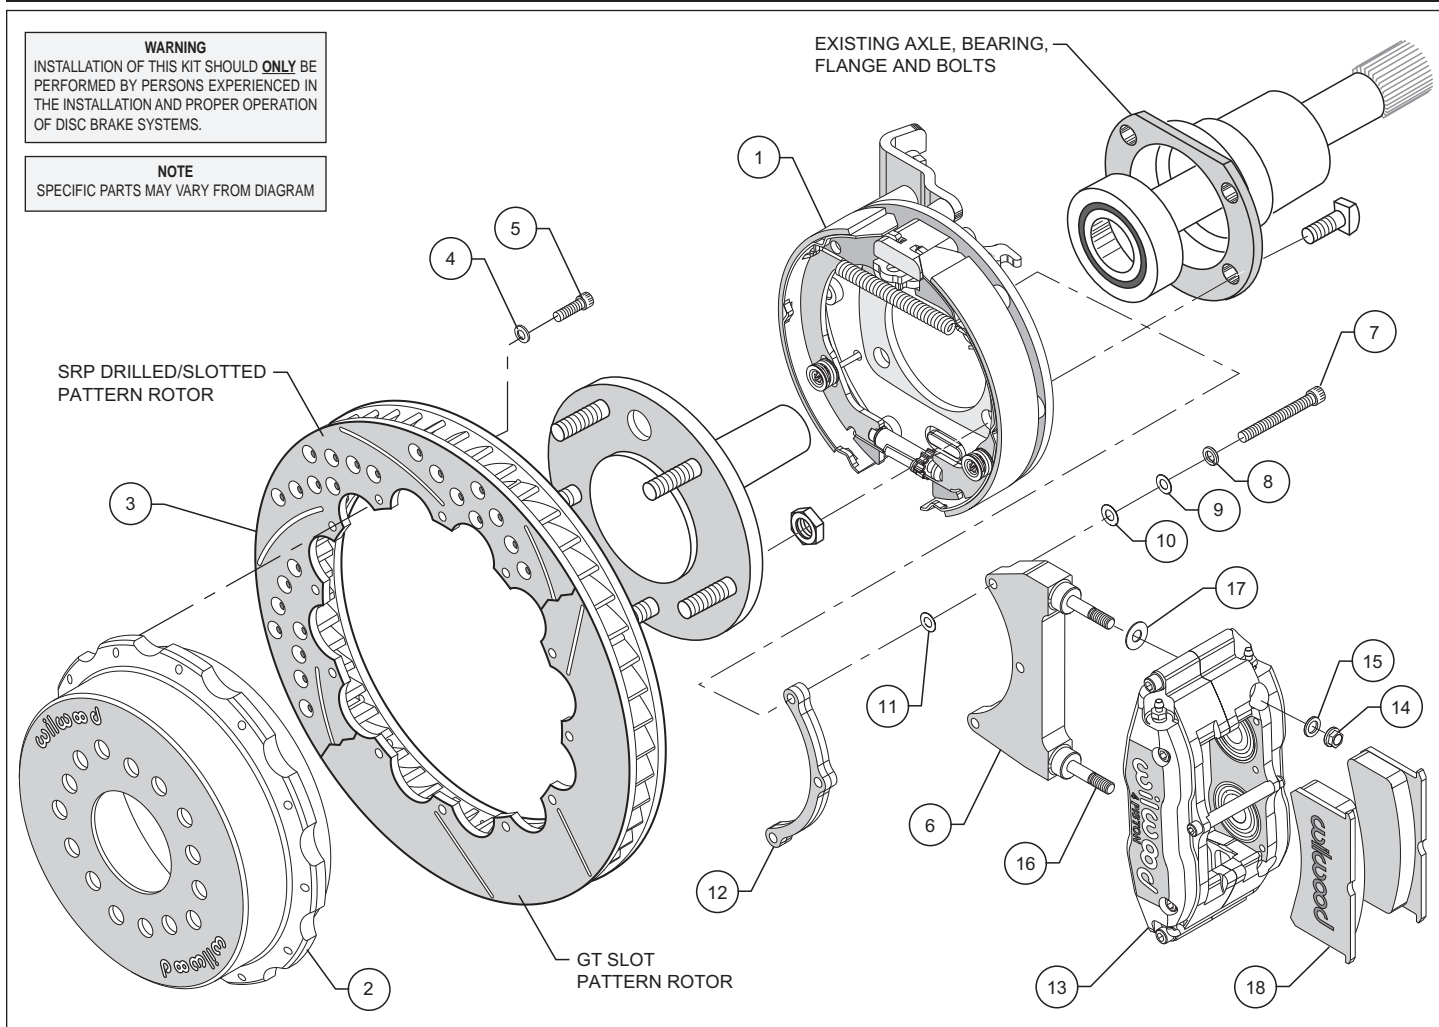
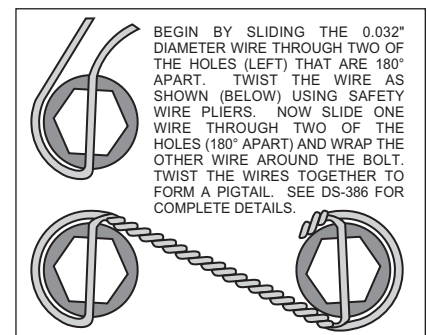

Figure 1. Typical Installation Configuration
Figure 4. Safety Wire Diagram
- Slide the bracket kit assembly (1) onto the housing flange and then insert the axle assembly through the center hole of the bracket kit assembly (1). Secure using the stock Original Equipment Manufacturer (OEM) bolts and nuts. Stock OEM hex nuts that retain the bracket kit assembly (1) should be on the wheel side of the bracket. Apply red *Loctite*® 271 to the stock OEM bolt threads and torque to OEM specifications. Make sure the bracket kit assembly (1) brake pads are **FACING OUTWARD TOWARDS THE WHEEL**.
- With the larger I.D. side of the rotor (3) facing away from the hat (2), bolt rotor (3) to hat (2) through the backside of the rotor using washers (4) and bolts (5). Torque bolts (5) in an alternating sequence to 103 **in-lb**. Safety wire bolts (5) using standard 0.032 inch diameter stainless steel safety wire as shown in Figure 4. Please refer to Wilwood's data sheet DS-386 (available at www.wilwood.org/ds386.pdf) for complete safety wire installation instructions.
- Align the correct hole pattern in the hat (2) with the stud pattern on the axle flange. **NOTE:** Some OEM and aftermarket axles come with stud sizes larger than 0.50" diameter. Verify stud size and have a qualified machine shop drill the hats to the correct size, if necessary. Slide the hat/rotor assembly (2 and 3) over the wheel studs covering the bracket kit assembly (1) and against the axle flange face. Check to be sure the hat seats squarely against the hub. Install a couple of lug nuts (finger tighten) to keep the rotor/hat assembly in place while continuing with the installation.
- NOTE:** Please reference the caution statement at the beginning of the assembly instructions. The caliper mounting bracket assembly (6) should be installed first with clean, dry threads on the mounting bolts (7). Install the bracket from the rear side of the bracket kit assembly (1) by sliding bolt (7) through lock washer (8), flat washers (9 and 10), bracket (6), shim washer (11) and finally through the spacer (12), see Figure 1. **NOTE:** End of bolt should not exceed inside face of insert. The bracket must tighten squarely against the back side of the bracket kit assembly (1). Inspect for interference from casting irregularities, machining ridges, burrs, etc. Use one thin shim (11) between the bracket (6) and spacer (12) during initial trial fitting.
- Install one washer (17) over each pre-installed stud (16) on the radial mount bracket (6). Slide the caliper (13) in place over the studs and rotor, then install the washer (15) and lock nut (14) to hold the caliper in place. The caliper bleed screws should be pointing up. Snug the lock nuts (14) and check that the rotor (3) is centered in the caliper (13). Add or subtract .015" shims (11) as necessary between the caliper mounting bracket (6) and the spacer (12) to center the caliper (13).
- Remove the caliper center bridge pad retainer bolt, nut, and tube from the caliper. Slide the brake pads (18) into place. They should install easily without interference. Check that the outside radius of the brake pad is aligned with the outside diameter radius of the rotor face. Add or subtract shims (17) between the caliper (13) and mount bracket (6) to gain the proper alignment. Reinstall the center bridge pad retainer tube, bolt, and locknut. The locknut should be snug without play in the bolt or tube. Be cautious not to over tighten.
- Adjust the parking brake shoes outward (using a drum shoe adjustment tool available at your local auto parts store) while spinning the hat (2) until a slight drag is felt against the hat/drum. Remove the lug nuts that were holding the hat/rotor in place. Install the wheel and lug nuts. Check to see that the wheel rotates freely without interference.
- Once all clearances have been checked, remove the wheel, caliper, hat/rotor from the bracket kit assembly (1). Secure the caliper mounting bracket (6) to the bracket kit assembly (1) using red *Loctite*® 271. Torque bolts (7) to 180 **in-lb**. Reinstall the hat/rotor assembly and again use lug nuts to hold it in place. Lubricate caliper mounting studs and nuts with lightweight oil, reinstall the caliper, torque the caliper nuts (14) to 30-35 ft-lb.